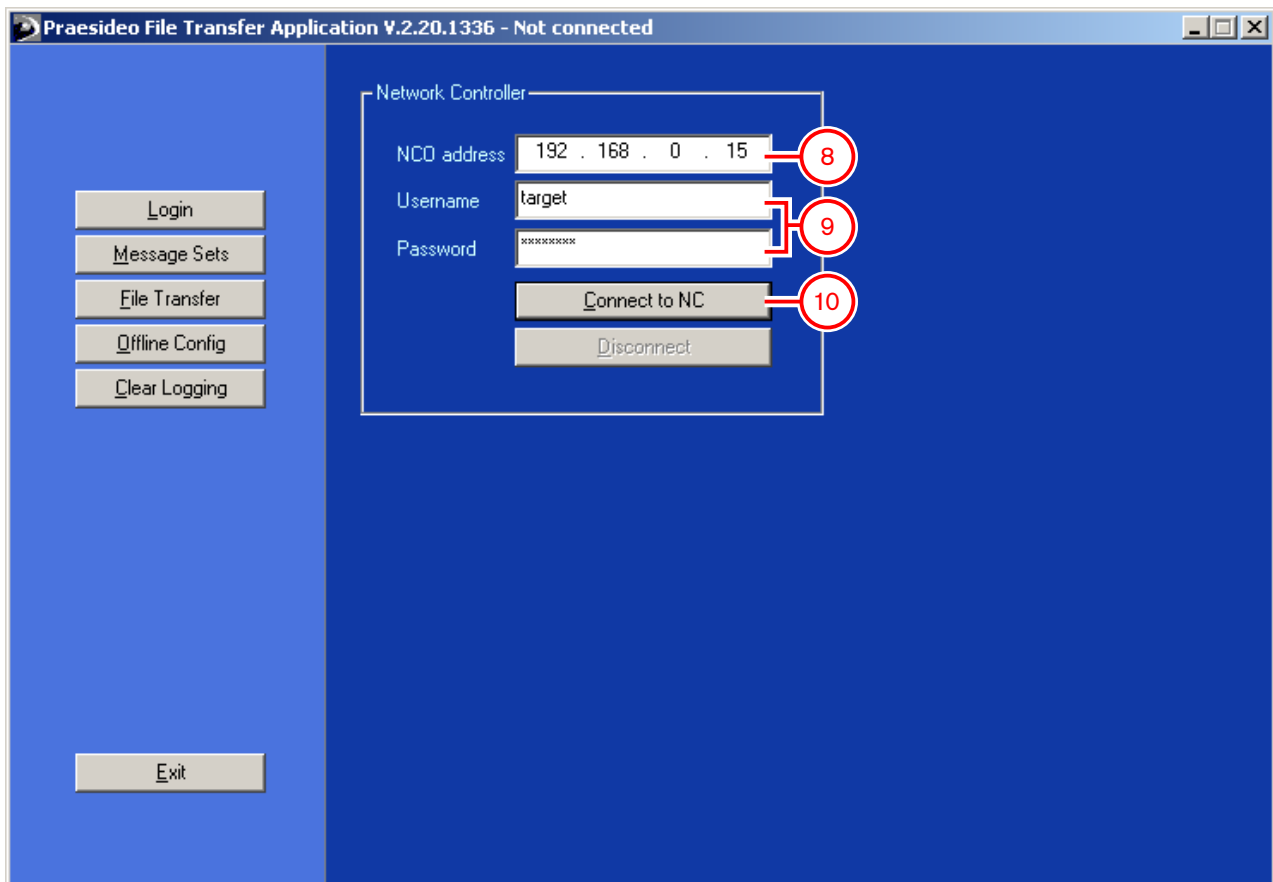

figure 28.5: Connecting to the network controller
- 8 Go to *Start > Programs > Praesideo > FT Application* to start the Praesideo *File Transfer Application*. A screen similar to the one in figure 28.5 appears.